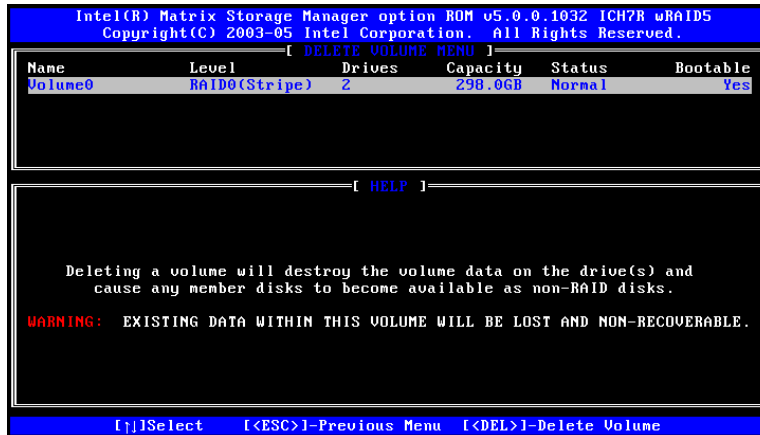

Figure F-9: Select RAID Volume to be Deleted
Step 2: Select RAID Volume to be Deleted. Use the arrow keys to highlight the RAID volume to be deleted and press **ENTER**. See **Figure F-9**.